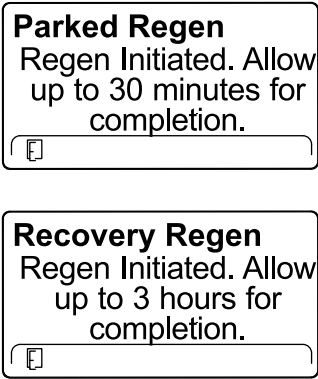

Figure 88
- The InfoCenter displays the time to complete message (Figure 88).